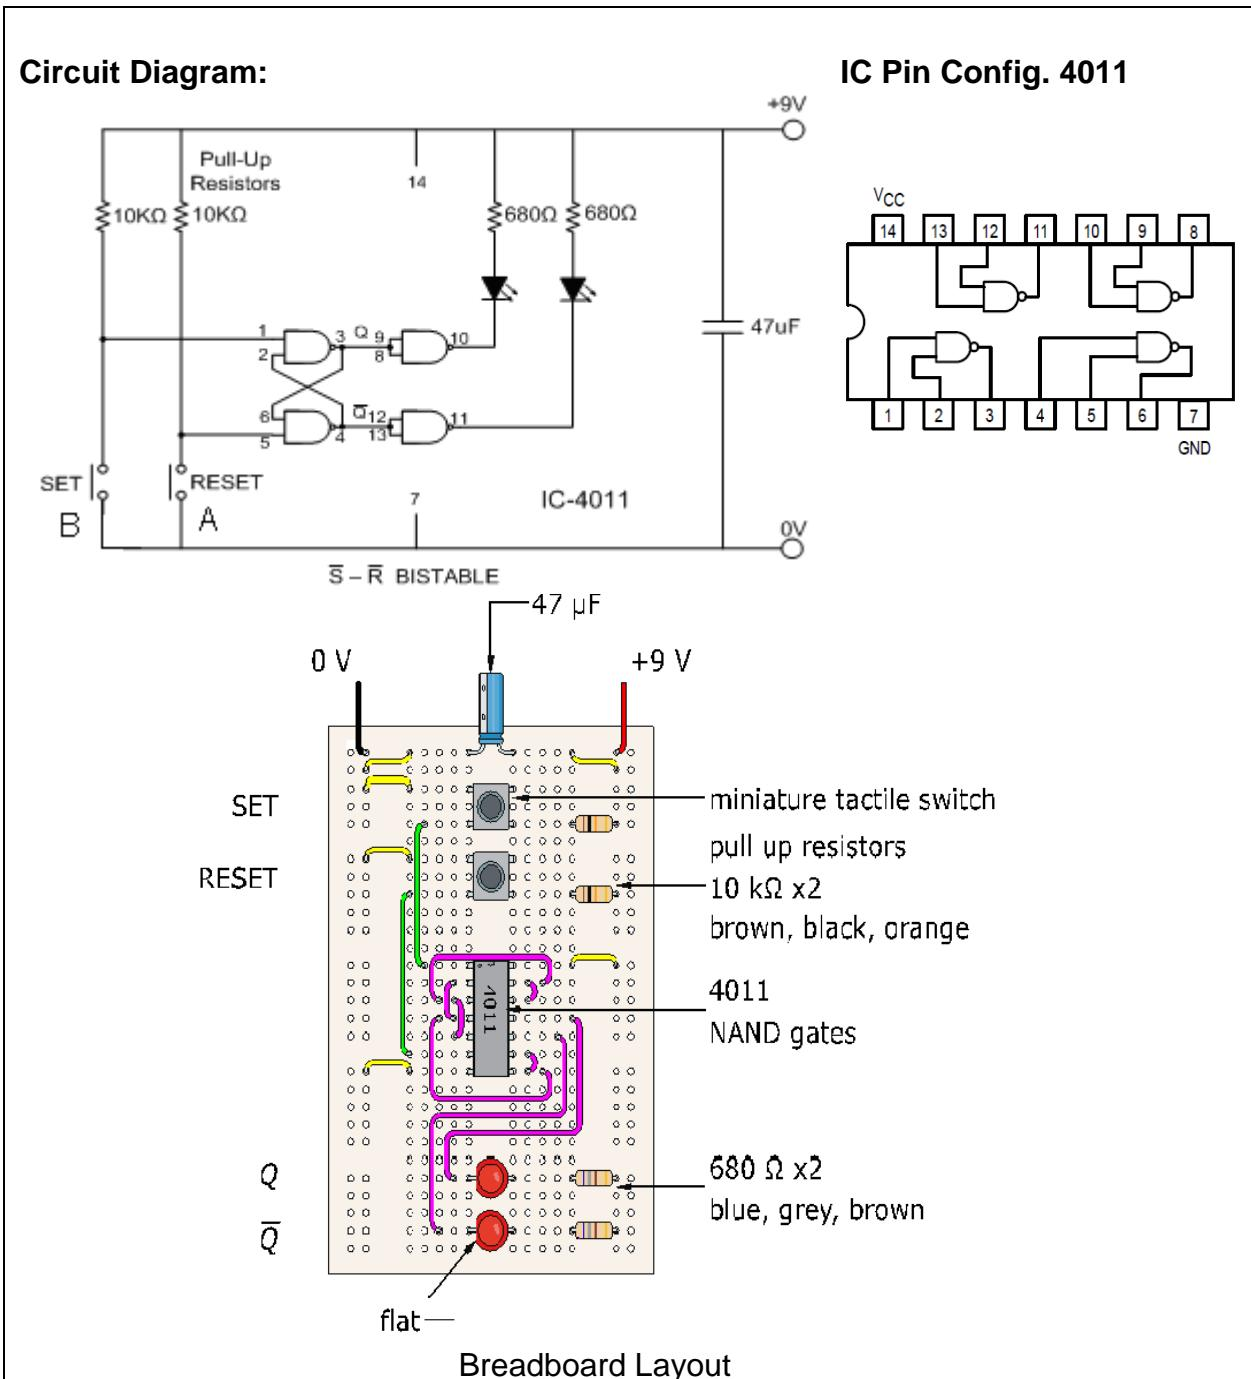

Figure 51
1. Connect the circuit as shown in Figure 51